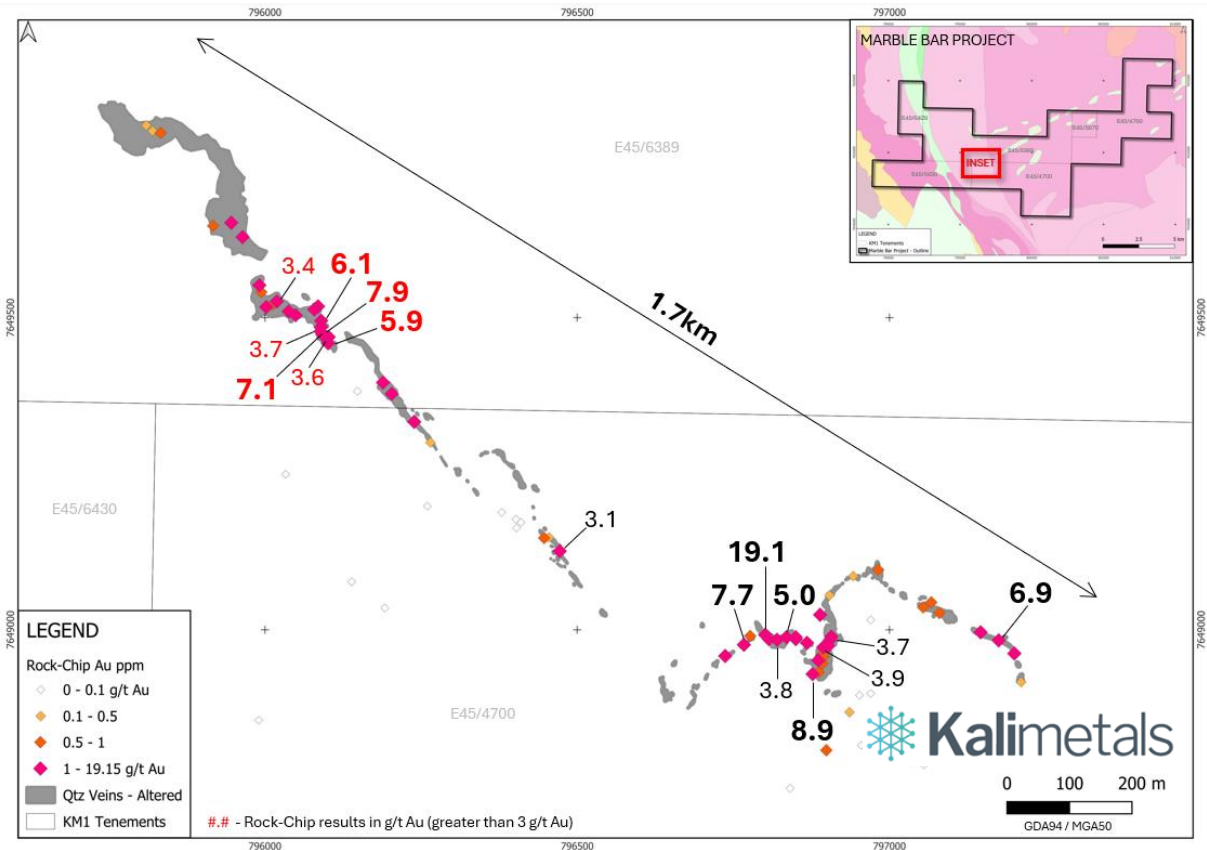

Figure 2. Tiger Gold Prospect - selected rock-chip samples over 3.0g/t gold⁵
- A cumulative **2km strike length**¹ of gold in outcrop has now been defined (1.7km at Tiger and 0.3km at Sherman Gold Prospects) (Refer Figure 2)
- Gold mineralisation has been extended 600m into the recently acquired 'Peggy' tenement (E45/6389)² at the Tiger Gold Prospect, with new rock chip results including **7.9 g/t Au, 7.1 g/t Au, 6.1 g/t Au** and **5.9 g/t Au** (Refer Figures 2 and 3)
- **Tiger Gold Prospect:** ~1.7km strike length, 60 rock-chip samples taken to date, results up to 19.1 g/t gold, averaging 2.5 g/t Au (Refer Figure 2)
Kali Metals Ltd (**ASX:KM1**) ("**Kali**" or "**the Company**") is pleased to provide an update on exploration activities at its Marble Bar Project with assay results of 24 rock chip samples received from the recently acquired "Peggy" tenement E45/6389 (Refer Figures 2 and 3 and Annexure B).
During May and June 2025, 162 rock-chip samples were collected over the newly acquired tenement E45/6389⁶. The initial focus was on mapping and rock-chip sampling along the 600m north-west extension of the Tiger Gold Prospect. Results from an initial 24 rock-chip samples have been received and are reported herein (Refer Figures 2 and 3 and Annexure B), with the remaining results to be released once received from the laboratory. This mineralisation along the extension is currently interpreted to dip gently to moderately to the north-east, with widths at surface of up to ~30m and an estimated true thickness of up to ~10m.